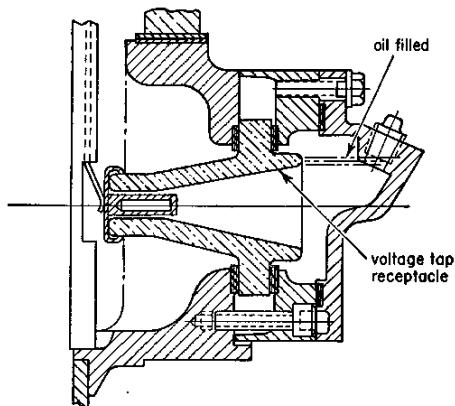
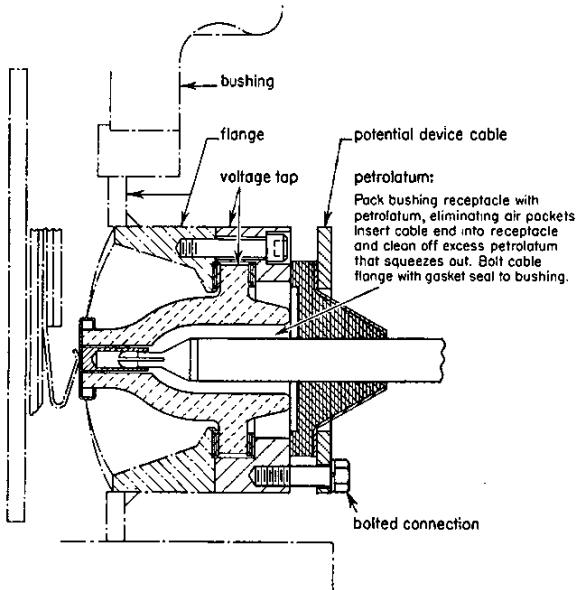

figure 33: Voltage tap receptacle for type "O" bushing
figure 34: Voltage tap, bolt connected, for type "O" bushing
**potential tap for use as voltage source:** The primary purpose of the potential tap, fig. 33, on type "O" bushings is to provide a source of voltage for use in synchronizing, relaying, etc. Figure 34 shows potential device cable attached to a bushing. This cable may be obtained from East Pittsburgh. When using this connector, the potential tap socket cover must be removed from the bushing and the oil replaced with petrolatum. Sufficient petrolatum should be packed in the tap socket so that the cavity is almost full when the connector is in place. The one end of the connector has provisions for clamping it in place, using the same holes and bolts as for the cover of the voltage tap socket. Provisions are made for connecting the other end to the potential device cabinet.